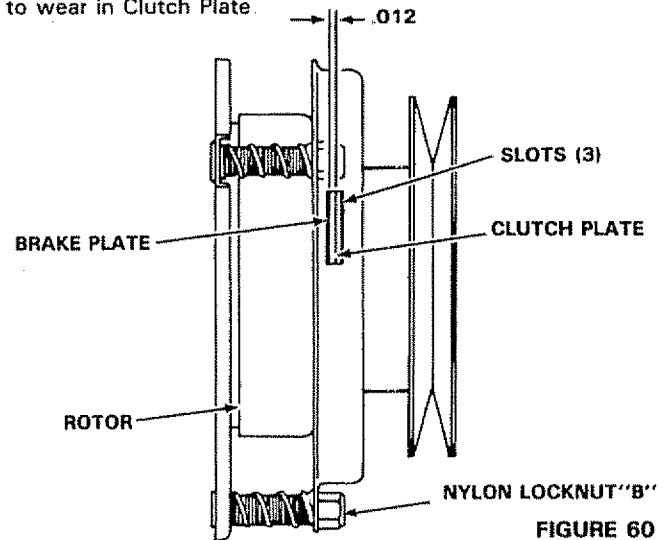

FIGURE 60
- Adjust the three nylon locknuts "B" until the space between the Clutch Plate and rotor measures .012 at all three slot locations cut in the side of the Brake Plate (Fig. 60).